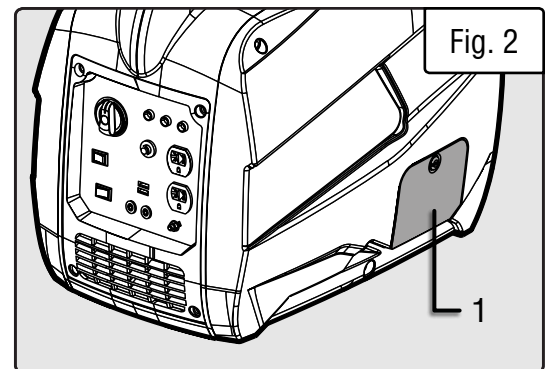

Fig. 2
2. Using a coin, turn the oil access cover screw 1/4 turn clockwise, then remove the access cover (Fig. 2 - 1) from the service panel. Then, unscrew the oil dipstick from the engine.